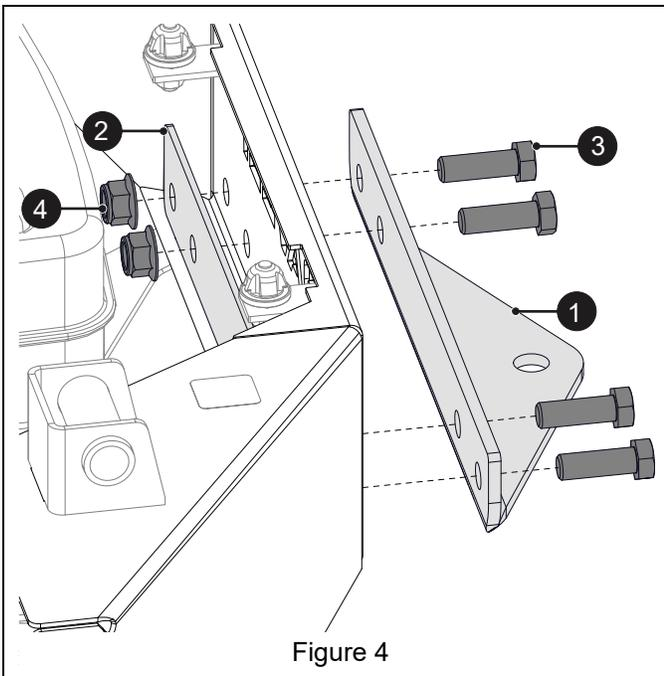

Figure 4
3. Loosen two wing knobs retaining rear engine guard and remove guard. See Figure 4.
- Align hitch plate (item 1) with holes in bumper. Position hitch plate backer (item 2) against inner surface of bumper and secure with four 1/2" x 1 1/2" hex bolts (item 3) and four 1/2" nylon locking flange nuts (item 4). See Figure 4.